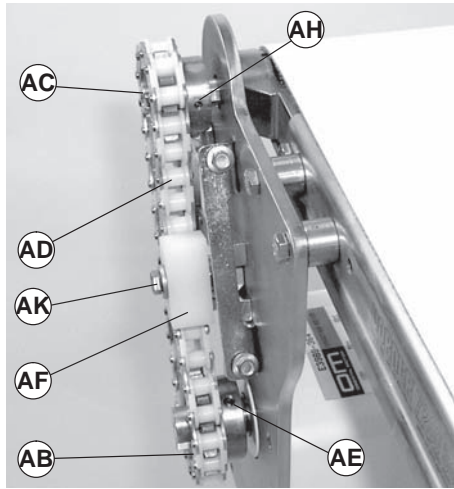

Figure 24
2. Loosen timing chain tensioner screw (Figure 24, item AK).
Make sure center of timing chain (Figure 24, item AD) aligns with center of chain tensioner (AF). If necessary, loosen two set screws (AE) to move drive sprocket (AB) in or out. Tighten set screws. Also, if necessary, loosen two set screws (AH) to move driven sprocket (AC) in or out. Tighten set screws.
7. Slide chain tensioner (AF) to take up chain slack. Tighten chain tensioner screw (Figure 24, item AK) to 92 in-lb (10.4 Nm).